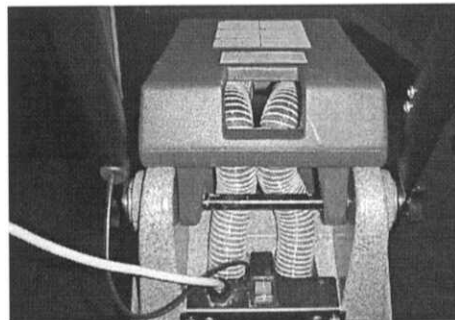

Figure 7
4. If brush stops, the circuit breaker may have been tripped. Unplug power cord check brush for obstruction. Push brush reset button to resume (Figure 7).